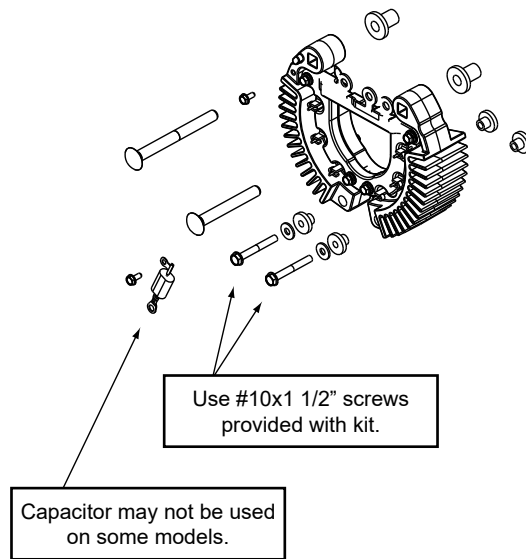

Fig 7
Step 8: Install hardware and insulators per Fig 7. See Fig 8 for required torques.